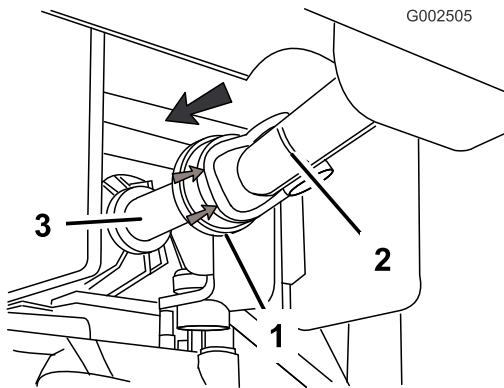

Figure 23
- Pull rearward on the rubber cowling of the front of the PTO drive shaft (Figure 23).
- Install the drive shaft onto the PTO output shaft (Figure 23).